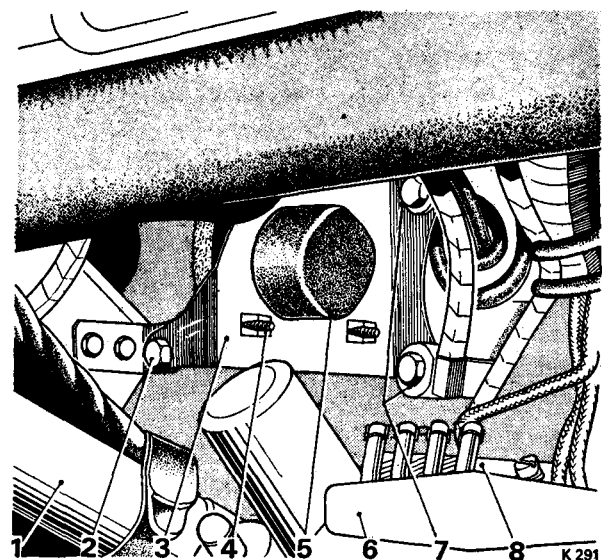

FIG. C10 POSITION OF LOWER TEMPERATURE FLAP ACTUATOR
(see Fig. C10)
7. Fit the mounting bracket together with the actuator into position (see Fig. C10).